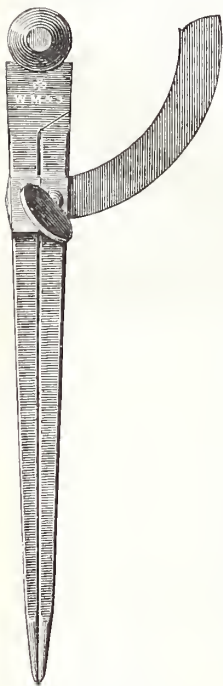

Fig. 35.—Wing
*Compasses* are used both for measuring and for scribing circles or parts of them. To prevent them opening or closing when in use an arm or wing is fixed to one leg, and projects through the other, in which is a screw by means of which they can be fixed at any opening. A pair of wing compasses is shown in Fig. 35.